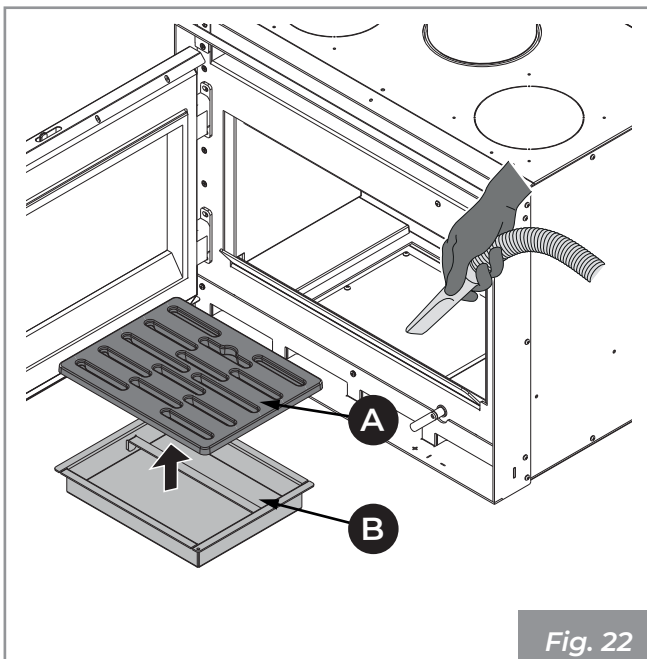

Fig. 22
- 1) Carefully clean the grate (A) (Fig. 22). Remove it and clean the fire box using a hand brush (not supplied) brushing the combustion residues into the ash drawer.